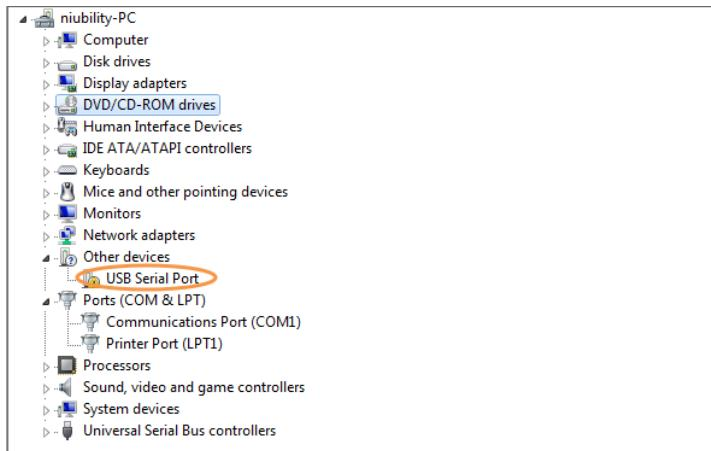

Figure 6-8 Unrecognized USB Serial Port on PC
- Power on your TR5 board, if you find an unrecognized USB Serial Port in Device Manager as shown in **Figure 6-8**.you should install the UART to the USB driver before you run the demonstration.